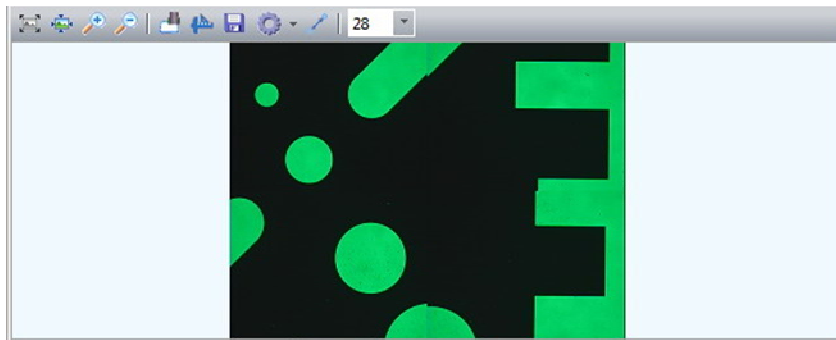

Fig. 10-19
- (3) Click the “confirm” button in Fig.10-19 to start scanning shown below: